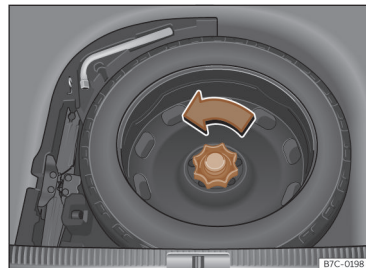

Fig. 223 In the luggage compartment: load floor raised. »
- Turn the thumb wheel anti-clockwise »» **Fig. 223** .